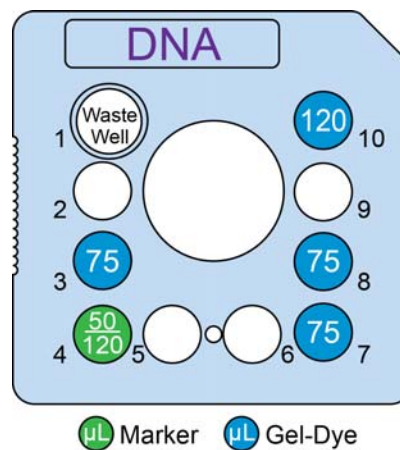

Figure 3. Reagent placement.
- 5 Using a reverse pipetting technique, add 75 μ L Gel-Dye solution to chip wells 3, 7 and 8, and 120 μ L to well 10 as shown in Figure 3.
- 6 Add DNA Marker (green cap ●) to chip well 4. Use 50 μ L DNA Marker for a 96-well plate and 120 μ L DNA Marker for a 384-well plate or multiple 96-well plates as shown in Figure 3.